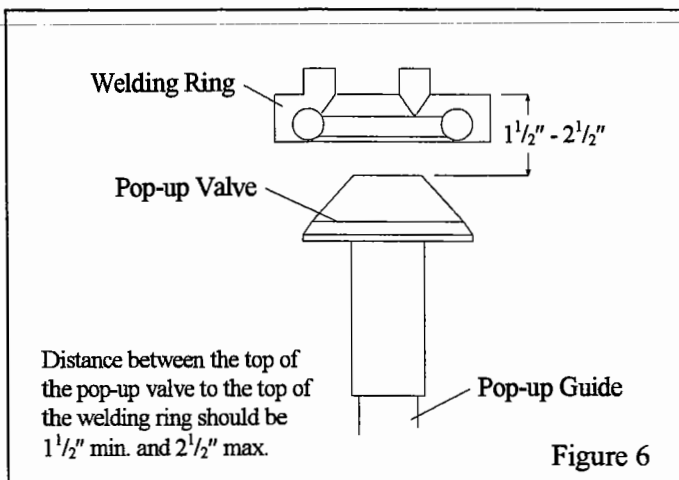

Figure 6
**5.7.6** Refer to Figure 6 to check the pop-up height. If the pop-up sits too low, misalignment could occur when the pop-up comes up against the seal. If the pop-up sits too high, it will take longer for abrasive to flow through the opening. Adjust the height by replacing the guide with one that is longer or shorter.